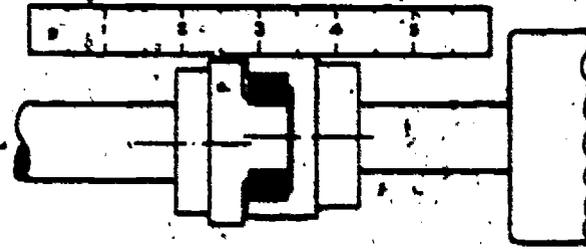

Figure 24. Checking Parallel Alignment
4. Check parallel alignment by laying a straightedge across both coupling rims at the top, bottom, and both sides, as shown in figure 24. When the straightedge rests evenly on both halves of the coupling at each side, the unit will be in horizontal parallel alignment. The vertical difference of the shafts should be measured with a straightedge and feeler gage. To establish parallel alignment, thin shim stock is placed under the motor base. Occasionally, shims may be required under the pump base.